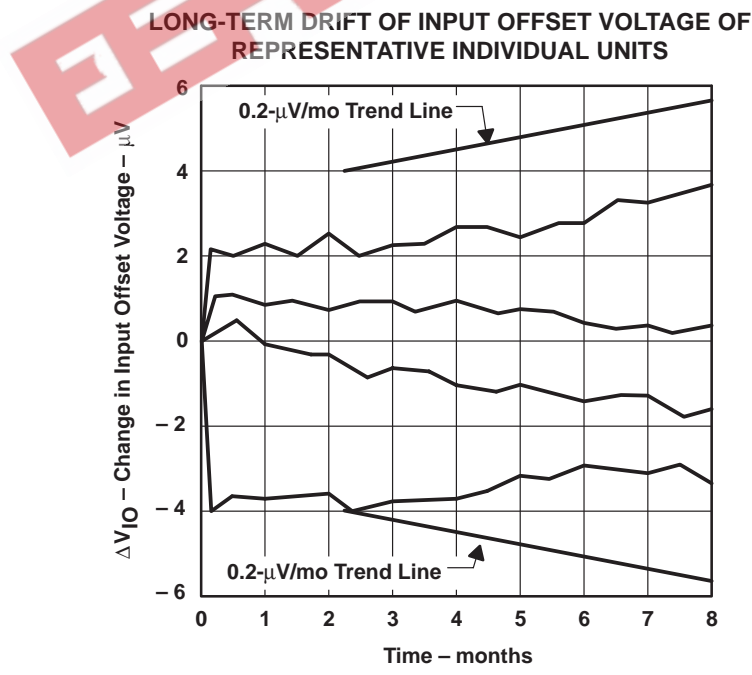

Figure 3
4. Long-term drift of input offset voltage refers to the average trend line of offset voltage versus time over extended periods after the first 30 days of operation. Excluding the initial hour of operation, changes in  $V_{IO}$  during the first 30 days are typically  $2.5 \mu\text{V}$  (see Figure 3).